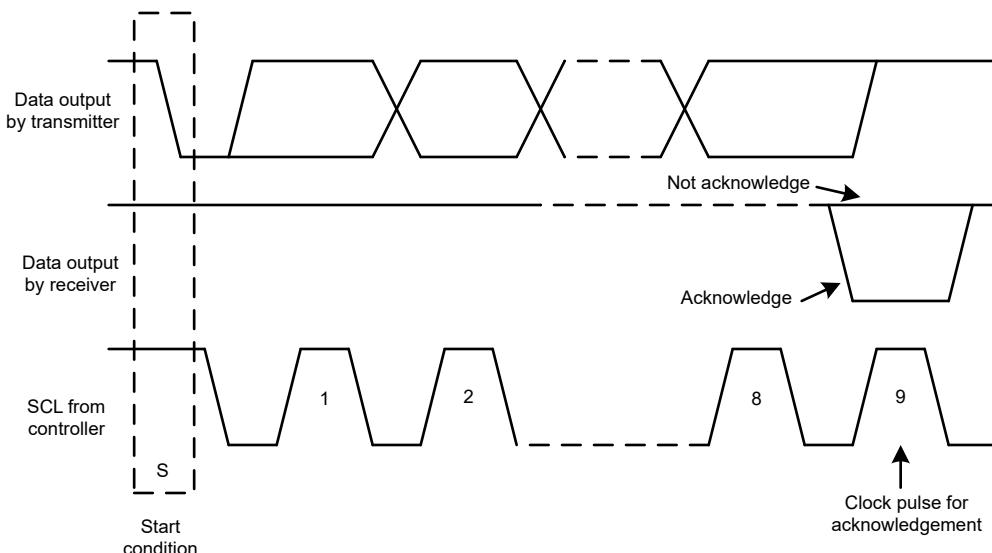
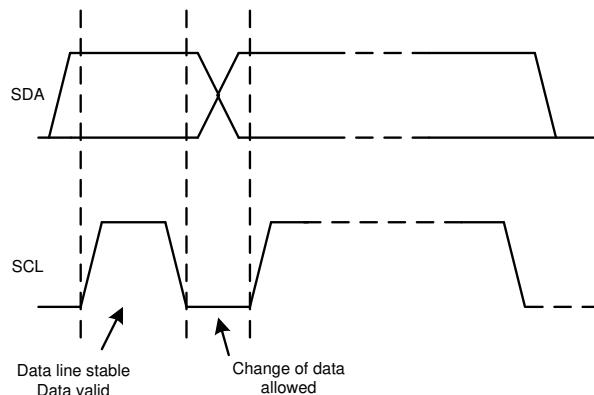

図 7-15. Acknowledge and Not Acknowledge on the I²C Bus
图 7-17. Bit Transfer on the I²C Bus
Other than specific timing signals, the I²C interface works with serial bytes. At the end of each byte, a ninth clock cycle generates and detects an acknowledge signal. An acknowledge is when the SDA line is pulled low during the high period of the ninth clock cycle. A not-acknowledge is when the SDA line is left high during the high period of the ninth clock cycle, as shown in 図 7-15.
2. The controller then generates the SCL pulses, and transmits the 7-bit address and the read/write direction bit (R/W) on the SDA line. During all transmissions, the controller makes sure that data are valid. A valid data condition requires the SDA line to be stable during the entire high period of the clock pulse, as shown in 图 7-17. All devices recognize the address sent by the controller and compare the address to the respective internal fixed address. Only the target device with a matching address generates an acknowledge by pulling the SDA line low during the entire high period of the 9th SCL cycle, as shown in 图 7-15. When the controller detects this acknowledge, the communication link with a target has been established.